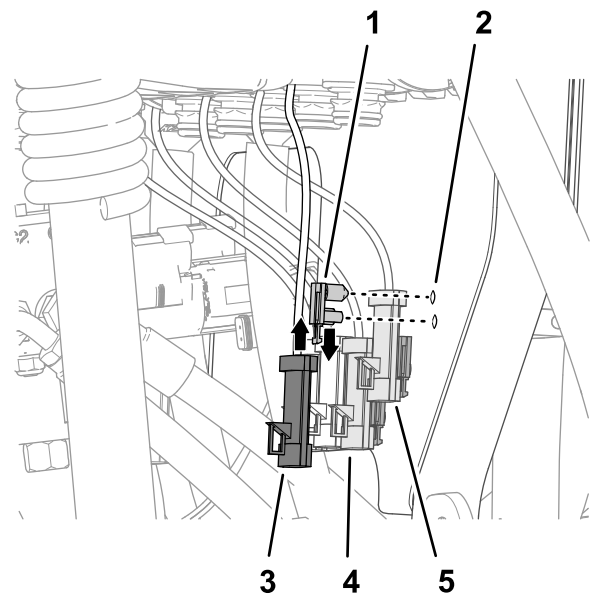

Figure 115
1. Assemble the push-in fasteners of the valve actuator electrical-connectors into the holes in the valve mount (Figure 115).